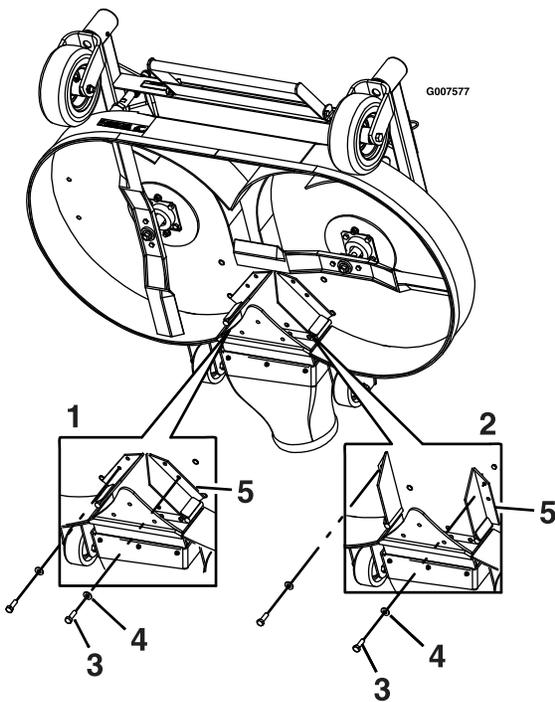

Figure 14
7. Remove the bolt and washer at the front of each FRS baffle (Figure 14).